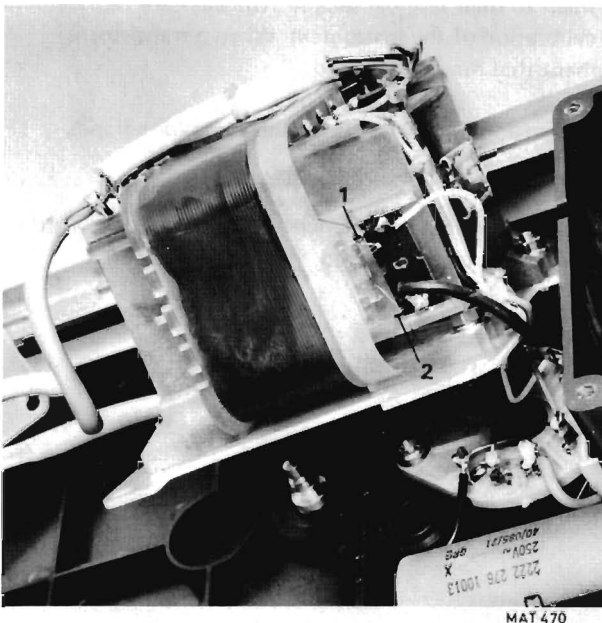
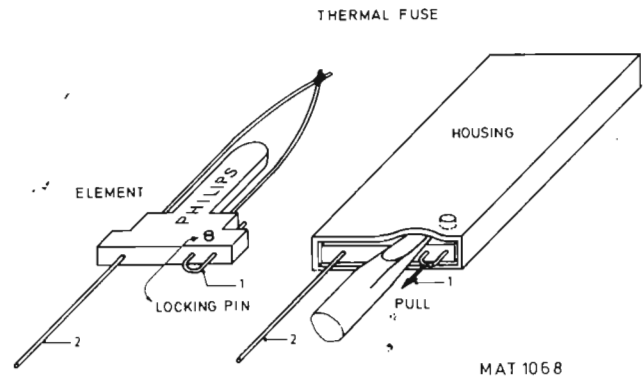

Fig. 6.1. Mains transformer with incorporated thermal fuse.
Fig. 6.2. Thermal fuse.
- Unsolder fuse terminals 1 and 2 (Fig. 6.1. and Fig. 6.2.).